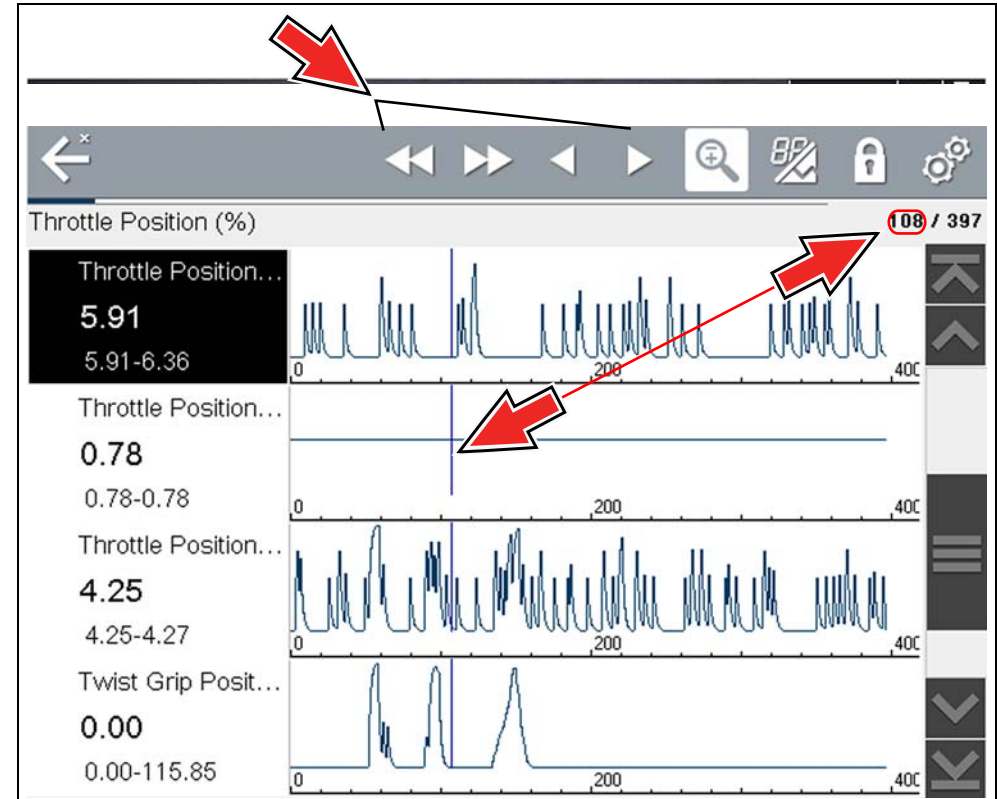

Figure 4-19
3. In graph view, use the control icons to move through the data (Figure 4-19).
The blue (vertical cursor) (Figure 4-19) indicates your position in the data and is denoted by the current position value (Figure 4-19) in the counter display. The cursor displays in all PIDs.
Pressing the Save icon more than once in the same data collection session will create multiple (.SCM) files. Each file will contain gray (vertical cursors) (Figure 4-19) indicating where the data was paused.